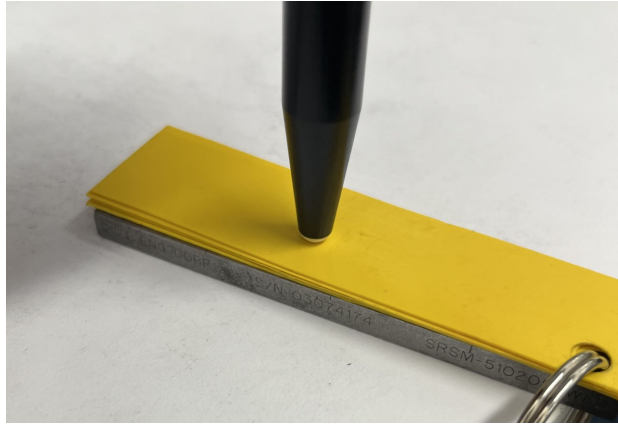

Figure 3-45 Place the Shims
1. Adjust the sensitivity setting by placing the entire stack of shims (four 0.5 mm or two 2.0 mm shims) on the reference standard (See Figure 3-45 on page 77).